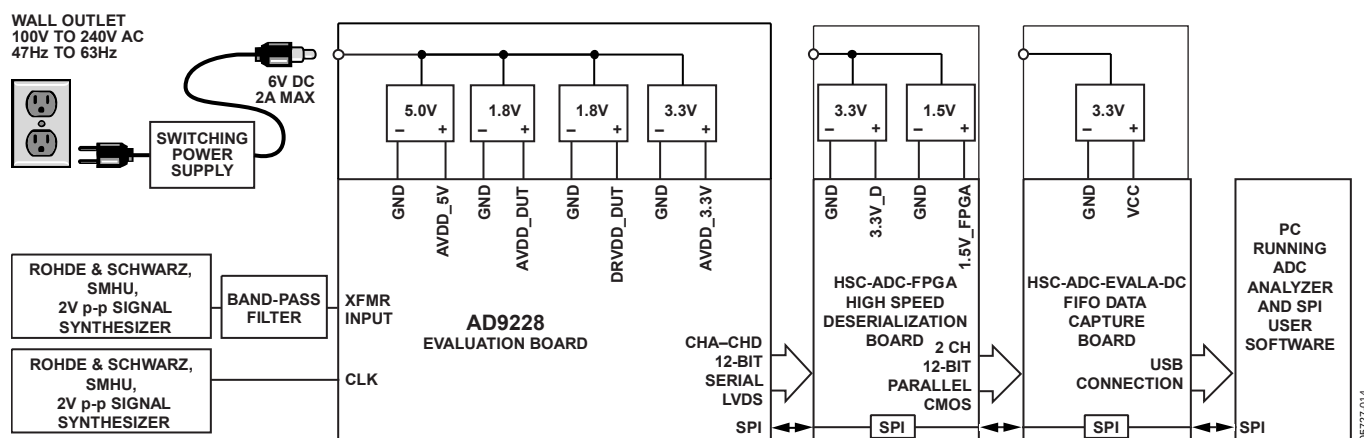
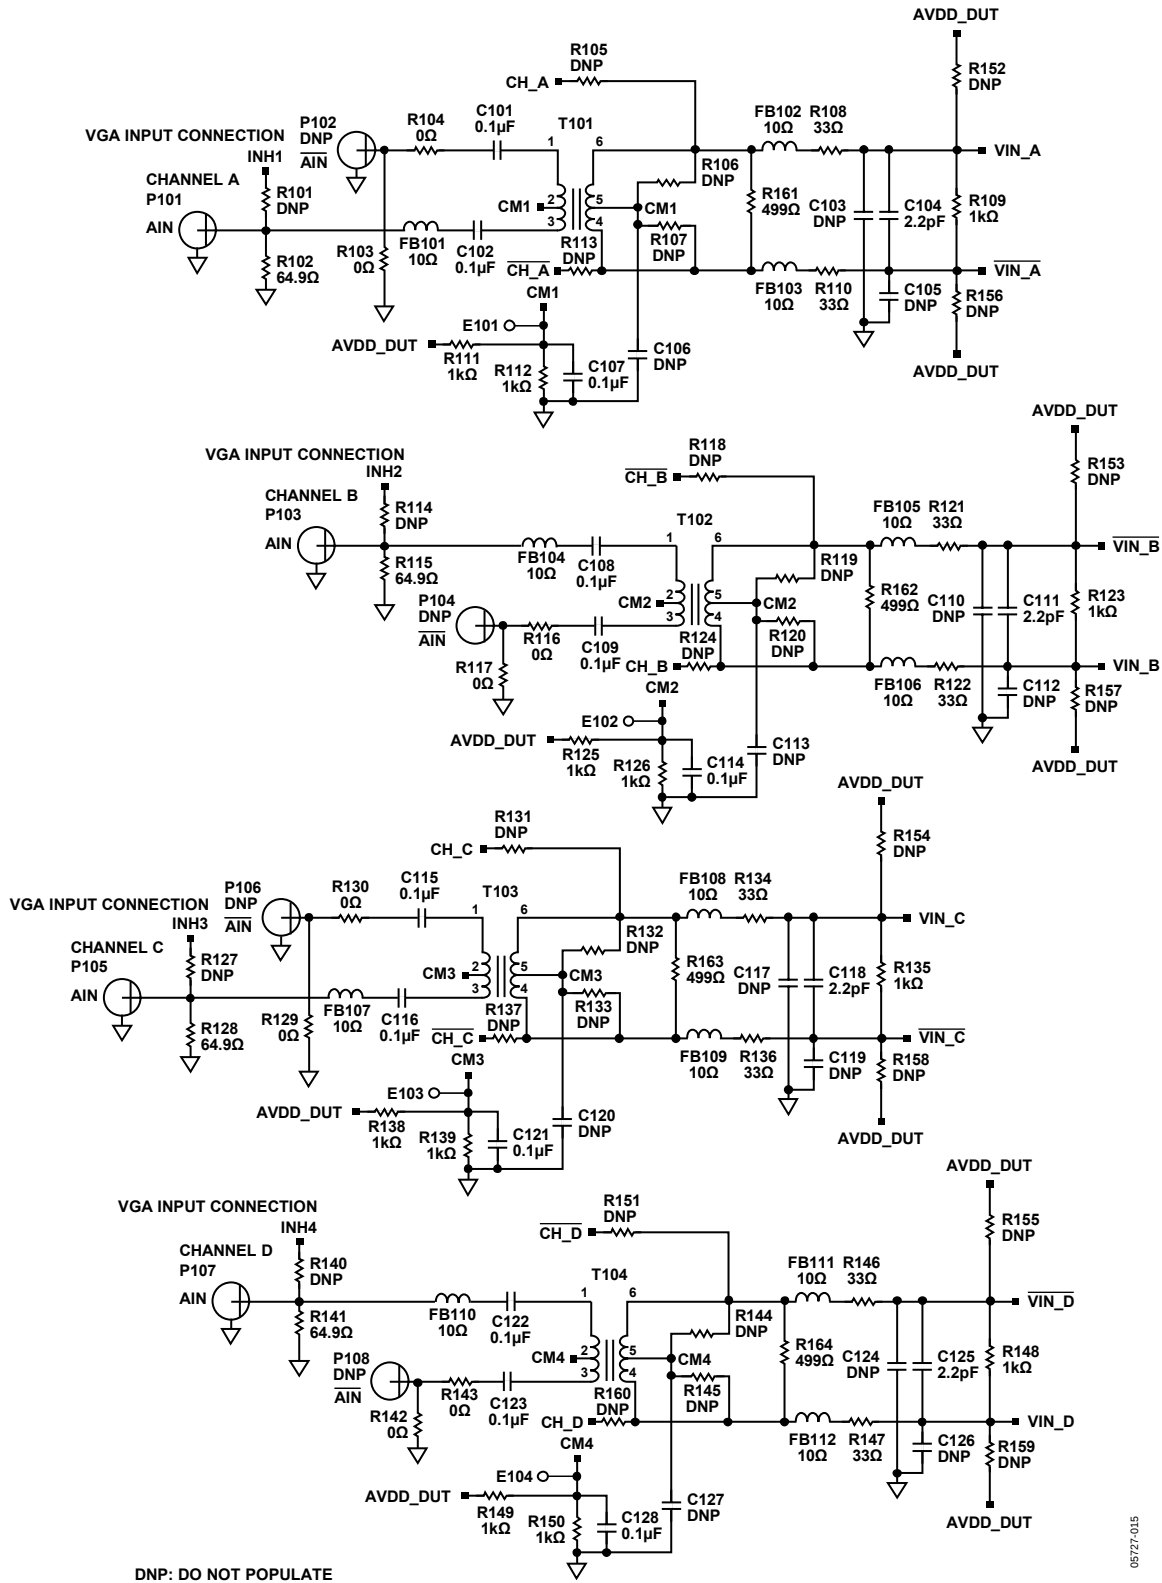
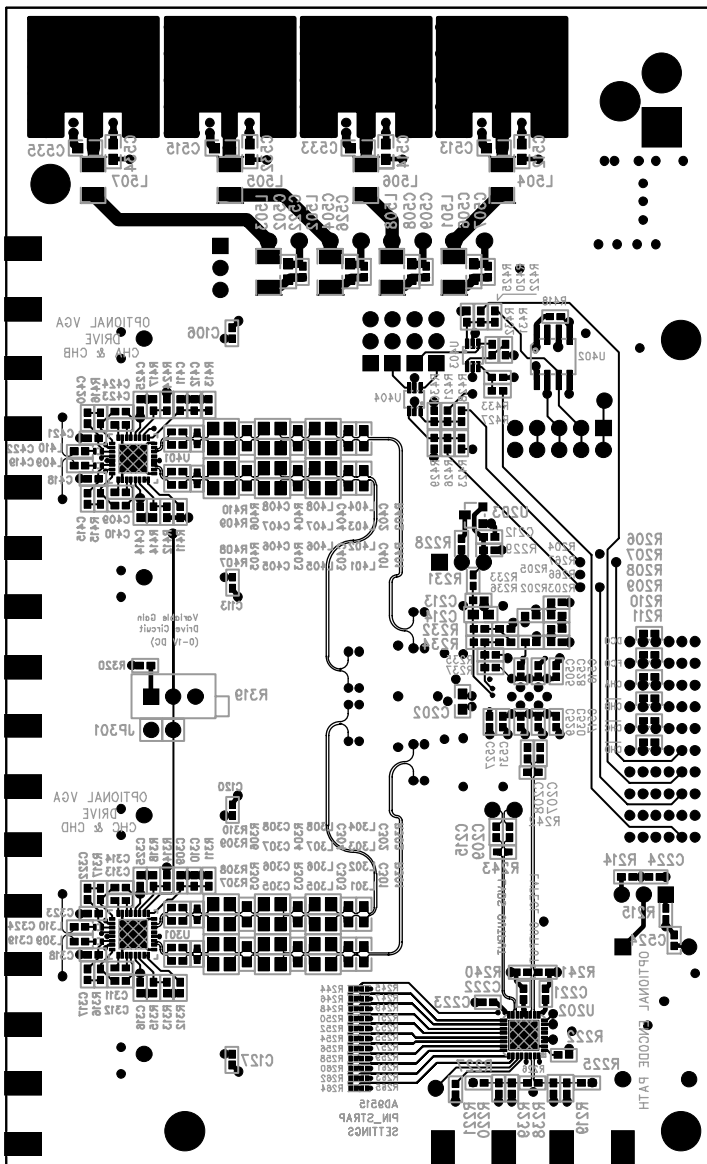

Figure 70. Evaluation Board Connection
Figure 72. Evaluation Board Schematic, DUT Analog Inputs
Figure 80. Evaluation Board Layout, Secondary Side (Mirrored Image)
The AD9228 evaluation board provides all of the support circuitry required to operate the ADC in its various modes and configurations. The converter can be driven differentially through a transformer (default) or through the AD8332 driver. The ADC can also be driven in a single-ended fashion. Separate power pins are provided to isolate the DUT from the AD8332 drive circuitry. Each input configuration can be selected by proper connection of various jumpers (see Figure 72 to Figure 76). Figure 70 shows the typical bench characterization setup used to evaluate the ac performance of the AD9228. It is critical that the signal sources used for the analog input and clock have very low phase noise (<1 ps rms jitter) to realize the optimum performance of the converter. Proper filtering of the analog input signal to remove harmonics and lower the integrated or broadband noise at the input is also necessary to achieve the specified noise performance.
See Figure 72 to Figure 80 for the complete schematics and layout diagrams that demonstrate the routing and grounding techniques that should be applied at the system level.
- **D+, D-:** If an alternative data capture method to the setup described in Figure 72 is used, optional receiver terminations, R206 to R211, can be installed next to the high speed back-plane connector.